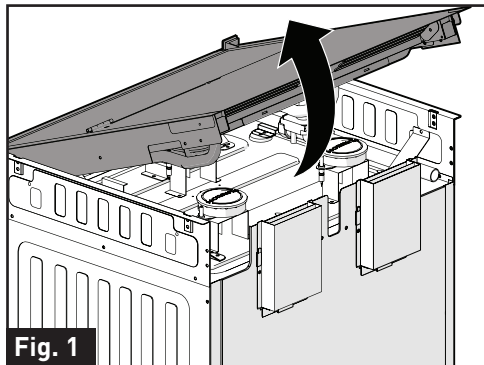
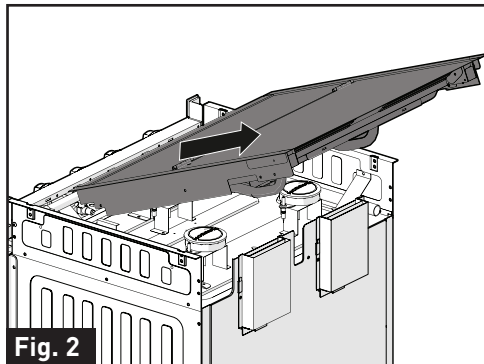

Fig. 1
Fig. 2
2. Hold the baffle of the top glass cover and pull it upwards to release it from the oven. (Fig. 1) Push a little and lift up to remove the top glass cover from the oven. (Fig. 2)